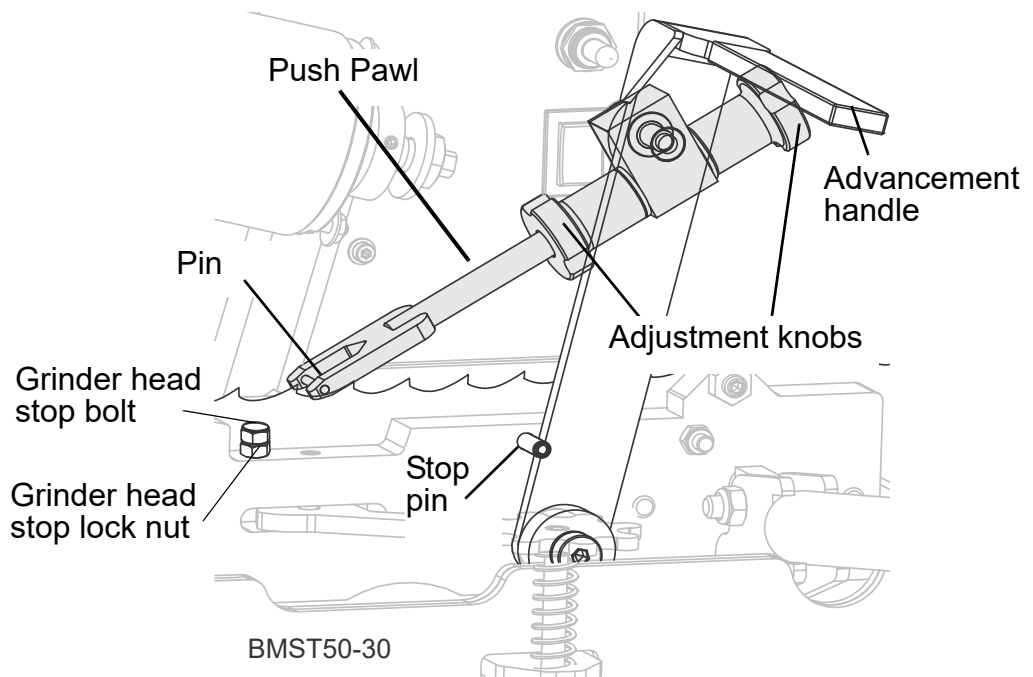

FIG. 3-9
Raise or lower the blade, if needed, to the desired position for the setter pins. The grinder head stop bolt can be adjusted to raise or lower the grinding head to new position of the blade. Check and re-adjust blade height as needed for sharpening and setting. (See fig. 3-9.)
- With the blade tightened in the sharpening position, loosen the push pawl adjustment nuts with a 17mm wrench. (See fig. 3-9.)